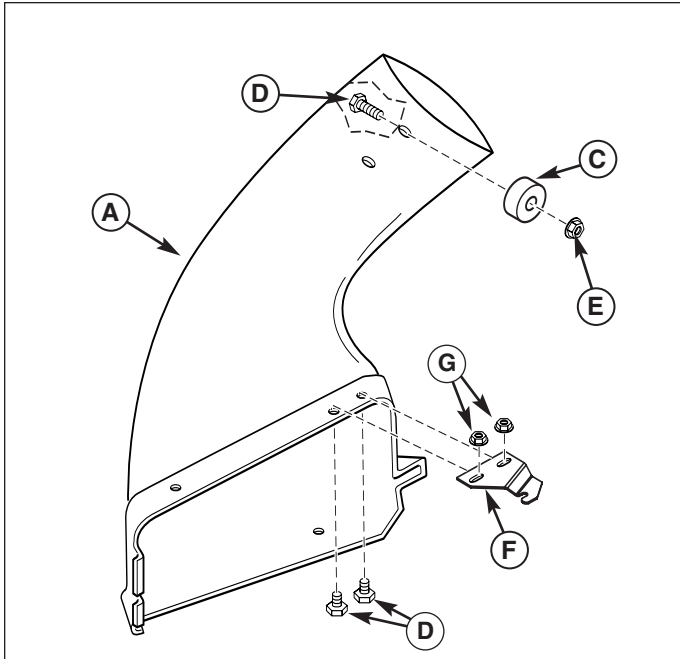

Figure 6. Install Pin and Bracket
1. Secure the puck (C, Figure 6) to lower chute (A) using 5/16-18 x 3/4 capscrew (D) and 5/16-18 locknut (E).
3. Install bracket (F) to lower chute (A) using 5/16-18 x 3/4 capscrews (D) and 5/16-18 locknuts (E).